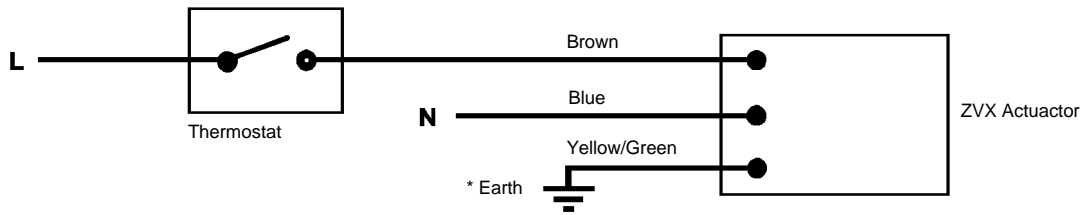

Fig.6
Wiring details are shown in Fig. 6.
- Warning this actuator must be earthed as shown in fig. 6.